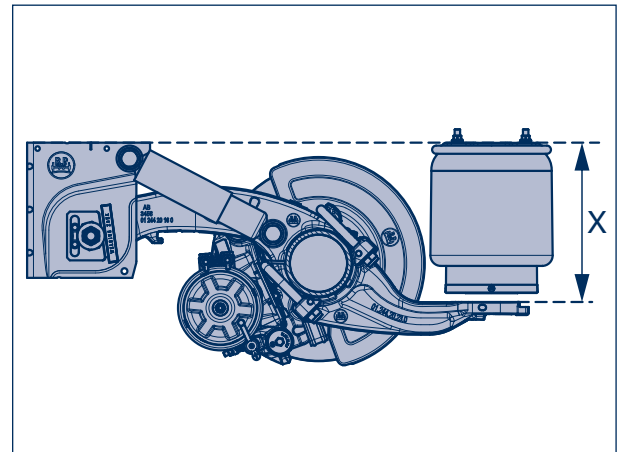

Figure 11
- [20] Measure distance X (Figure 11). This must coincide with the value noted in work step [7]. Tolerance +/- 1 mm.